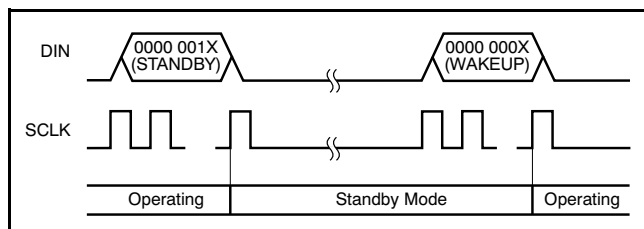

Figure 62. Standby Command Sequence
**Description:** This command places the ADS1282 into Standby mode. In Standby, the device enters a reduced power state where a low quiescent current remains to keep the register settings and SPI interface active. For complete device shutdown, take the PWDN pin low (register settings are not saved). To exit Standby mode, issue the WAKEUP command. The operation of Standby mode is shown in Figure 62.